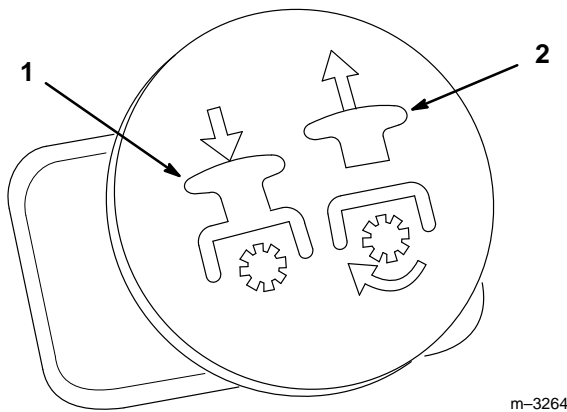

Figure 14
3. Pull the power take off (PTO) switch to ON (Fig. 14).